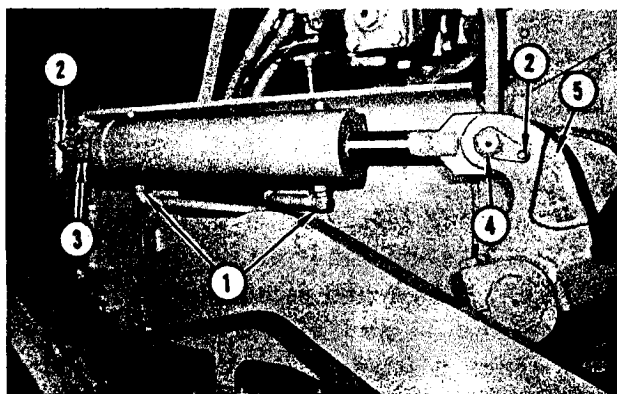

FIGURE 4. SCARIFIER CYLINDER REMOVAL
Refer to Figure 4. Disconnect hydraulic lines at fittings (1) on cylinder. Cap or plug the ends of lines and the fittings.